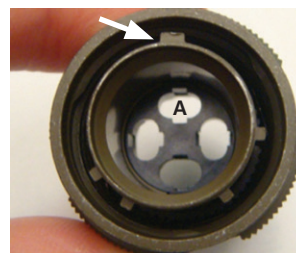

Figure 35: Front view with connector keyway
- a. On the front side of the connector identify the connector main key keyway (Figure 35).